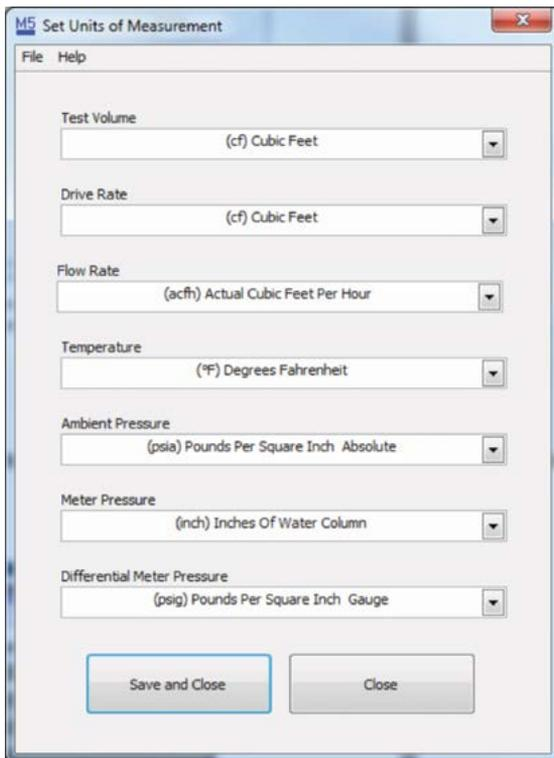

Figure 117: Changed Drop Down Selection
- The selection should be reflected as shown in **Figure 117**.